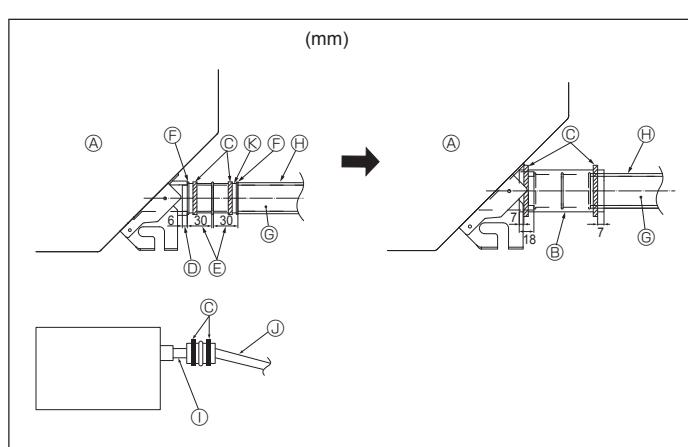

Fig. 5-2
⑧ O.D. ø32 PVC TUBE
⑨ Make it as large as possible (about 10 cm)
⑩ Main unit
⑪ Make the piping size large for grouped piping.
⑫ Downward slope (1/100 or more)
⑬ O.D. ø38 PVC TUBE for grouped piping (9 mm or more insulation)
⑭ Up to 85 cm
⑮ Air bleeder
⑯ Raised
⑰ Odor trap
1. Connect the drain socket (supplied with the unit) to the drain port. (Fig. 5-2) (Fix the tube using PVC adhesive then secure it with a band.)